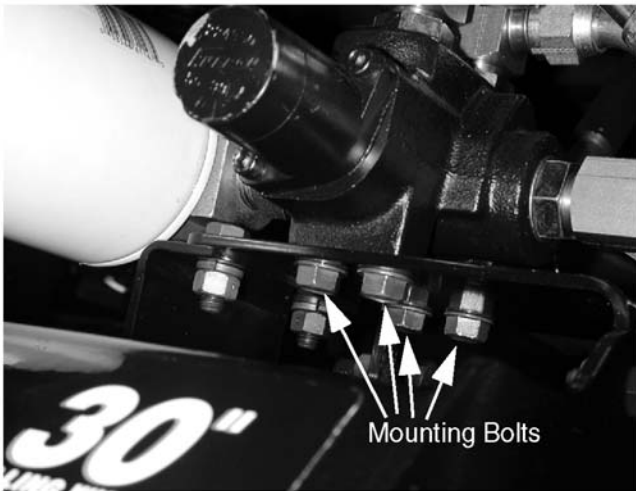

Figure 8-86.
7. Remove the four bolts which secure the control valve to the valve mounting bracket using a 1/2" wrench. See Figure 8-86.